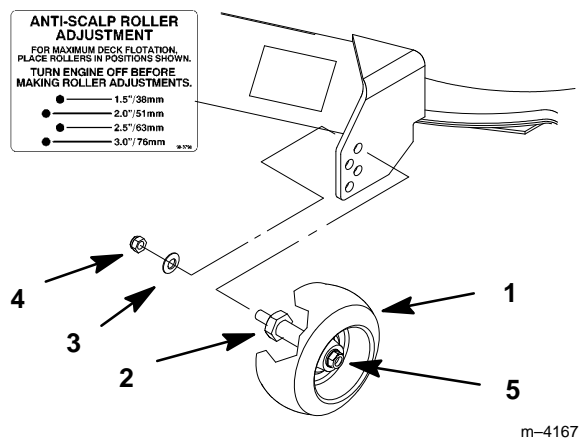

Figure 12
2. After adjusting height-of-cut remove nut and washer while holding stud with wrench (Fig. 12).
Note: Do not remove the wheel nut and washer (Fig. 12).
3. Select hole so gage wheel is positioned to the nearest corresponding height-of-cut desired (Fig. 12).
4. Reinstall the stud nut and washer (Fig. 12).